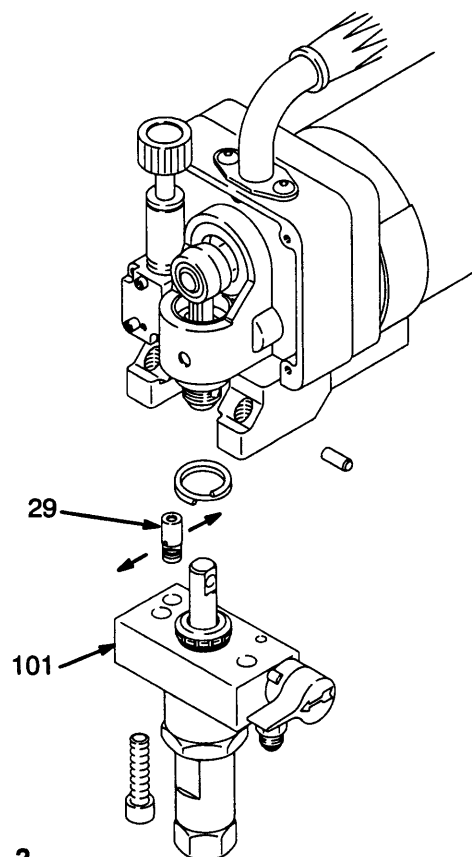

Fig 27-2
NOTE 1: See Fig 27-2 for this procedure.
2. Use a pull-twist motion to remove the transducer (29) from the pump manifold (101).
6. Align the holes in the transducer as shown by the arrows in Fig 27-2.